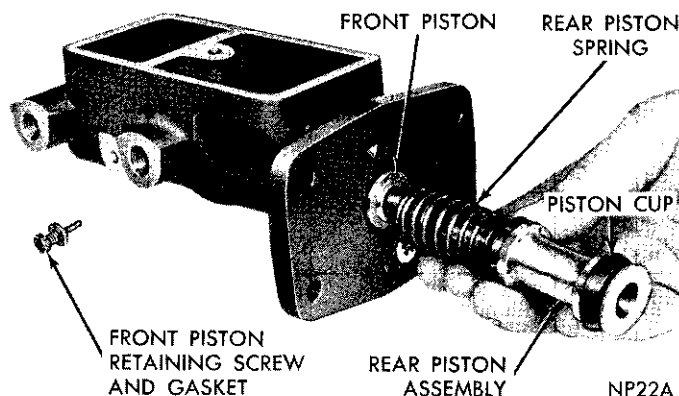

Fig. 6—Installing Rear Piston Assembly
(2) Center spring retainer of rear piston assembly over shoulder of front piston. Push piston assemblies into bore up to center piston cup. Carefully work cup into bore then push piston in up to rear cup. Carefully work lip of rear cup into bore, then push in on piston until seated (Fig. 6).
(3) Holding piston in seated position, move piston retainer over piston and tighten screw securely.